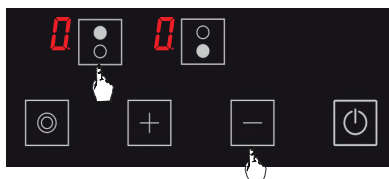

Figure 21
2. Press upper hob selection key (**0**) and minus key (**-**) simultaneously. (see Fig. 21) You shall hear a short warning signal at this time. Then, remove your fingers from the stove control panel.